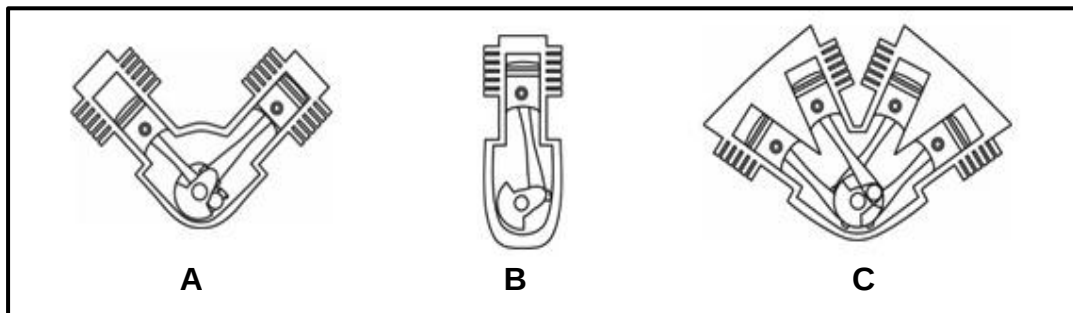

FIGURE 6.3
- 6.3 FIGURE 6.3 below shows engine cylinder layouts. Answer the questions that follow.